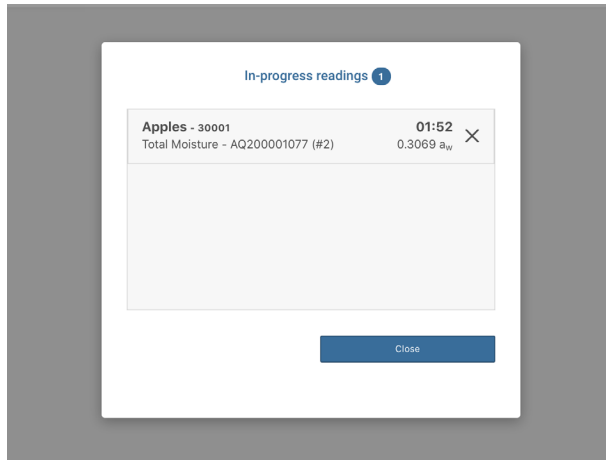

Figure 70 In Progress Reading popup window
The In Progress Readings popup window will appear (Figure 70).
12. Select the **Close** button to close the In-Progress dialog window and return to the readings window (Figure 70).